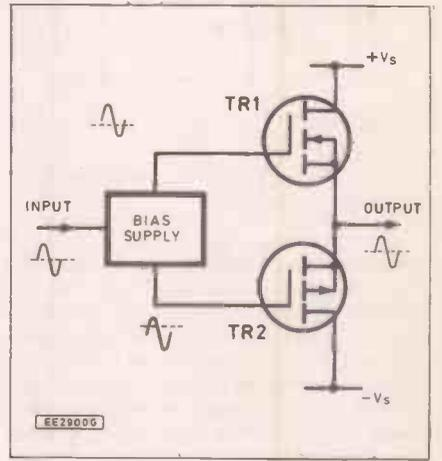

Fig. 3.8 Complementary output stage based on power MOSFET transistors
The basic arrangement of an output stage based on power MOSFET transistors is shown in Fig. 3.8. Again, TR1 and TR2 are complementary transistors but this time they employ MOSFET rather than bipolar technology. MOSFETs offer a number of advantages over conventional bipolar or Darlington configured output stages. Paramount amongst these is the ability to perform well at high temperatures and immunity from the effects of thermal runaway.
The arrangement shown in Fig. 3.8 is suitable for power levels of up to 200W (thereafter, additional MOSFET devices can be paralleled with the aid of current sharing resistors of appropriate value in the gate and source circuits).
- as TR2 in the circuit configuration of Fig. 3.8?